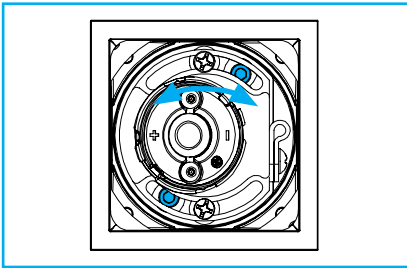
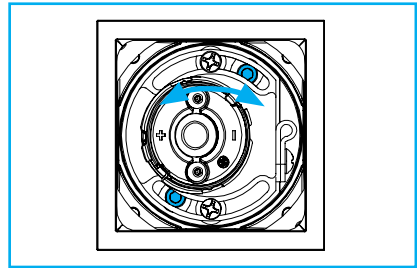

Fig.49
Fig.50
C. Loosen the screws shown in “Fig.49” for fixed or “Fig.50” for wallwash using supplied 7/64” Allen wrench and lower LED engine through aperture.